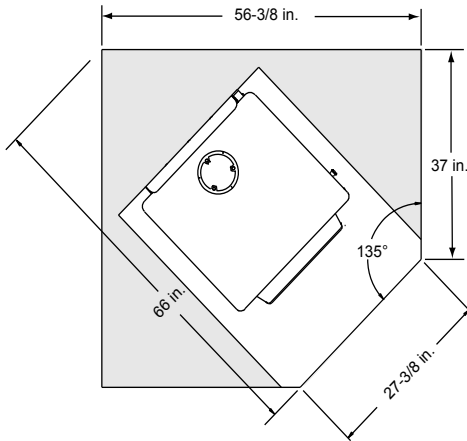

Figure 8.2
In Canada, similar floor protection must be provided 18 inches (457mm) in front and 8 inches (203mm) from the sides and rear of the appliance. **Figure 8.2 \*See exception.**
**\*EXCEPTION:** Non-combustible floor protections must extend beneath the flue pipe when installed with horizontal venting and extend 2 inches (51mm) beyond each side. **See Figure 8.2**